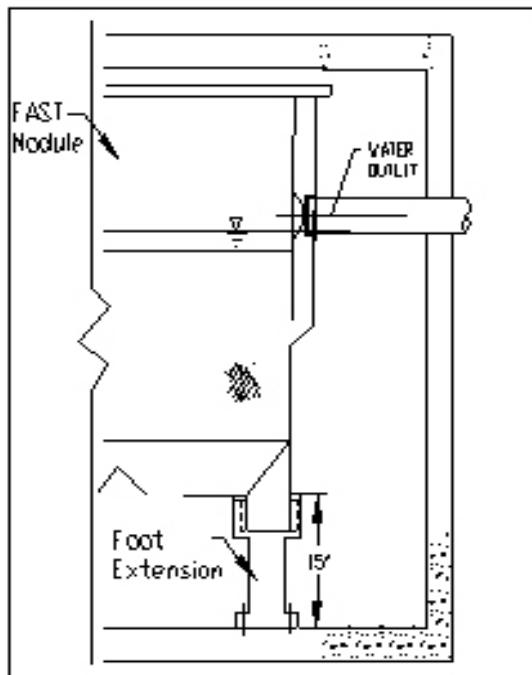

FIGURE 2
- B. **LEG EXTENSION INSTALLATION:** Leg extensions (see FIGURE 2) must be used with all 4.5 and 9.0 modules, and they are an option for all of the models that are smaller than the 4.5 and the 9.0. On those smaller models there would be an option to use 4 leg extensions attached to the 4 corner feet of each module. On the 4.5 and 9.0 models the leg extensions are attached to the 4 corner feet and to the very center foot directly beneath the center of the module.